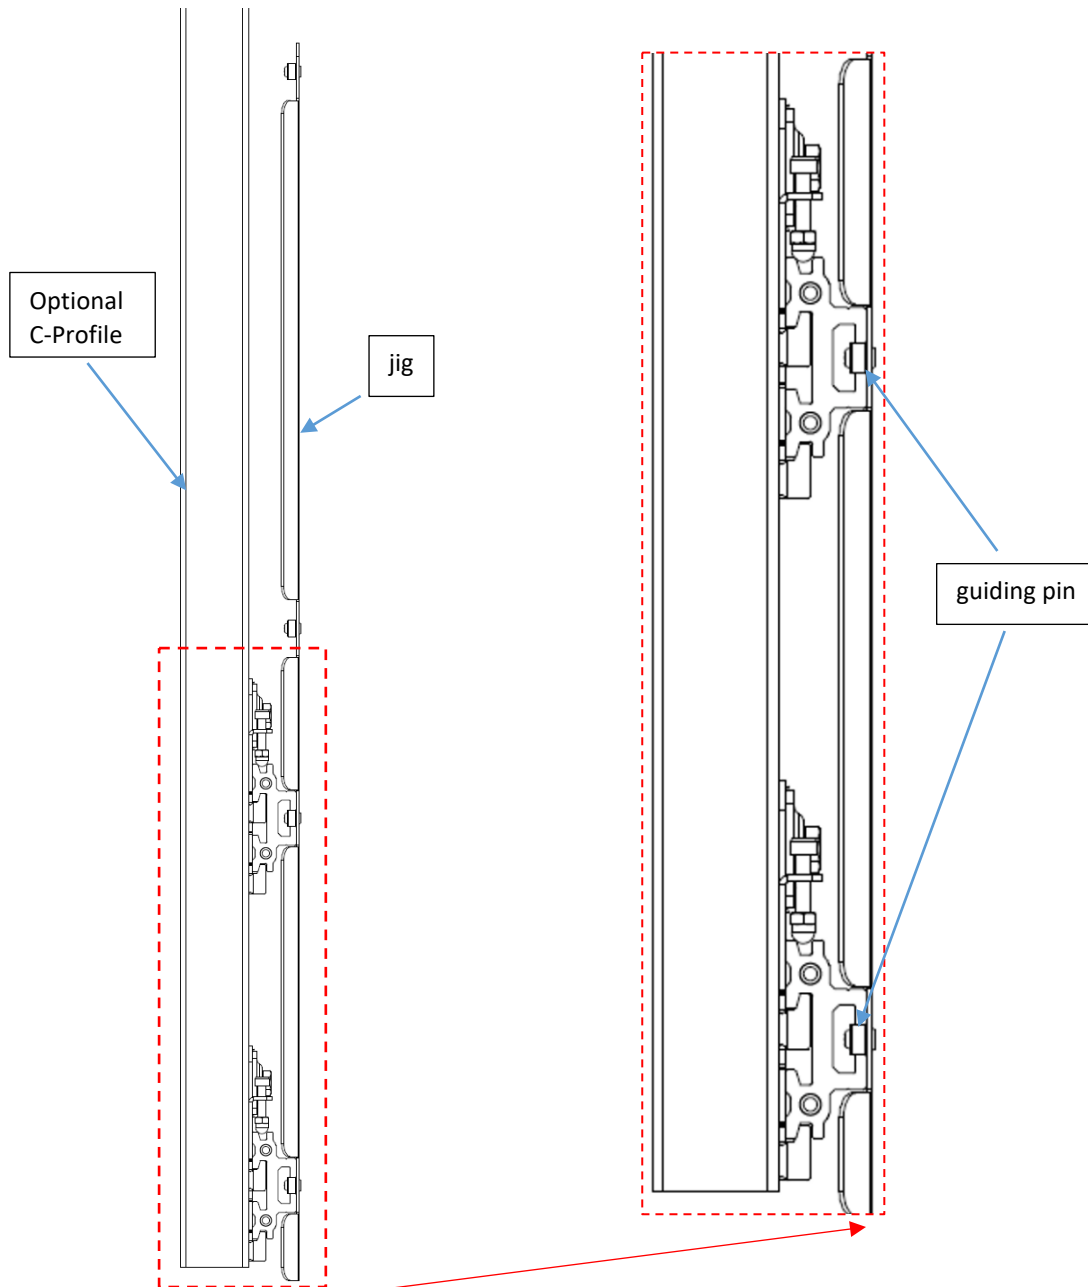

Figure 11 Sideview using the jig on first and second row profiles
Step 2: Use the two provided mounting jigs and position them with the lowest guiding pin into the nut profile of the lowest profile. Install the second row of profiles so that the second lowest guiding pin fits to the nut profile of that second row. See also Figure 11. Use one jig on the left end of the profile and one jig on the right end of the profile. Make sure to tighten all screws once the second profile row is installed.